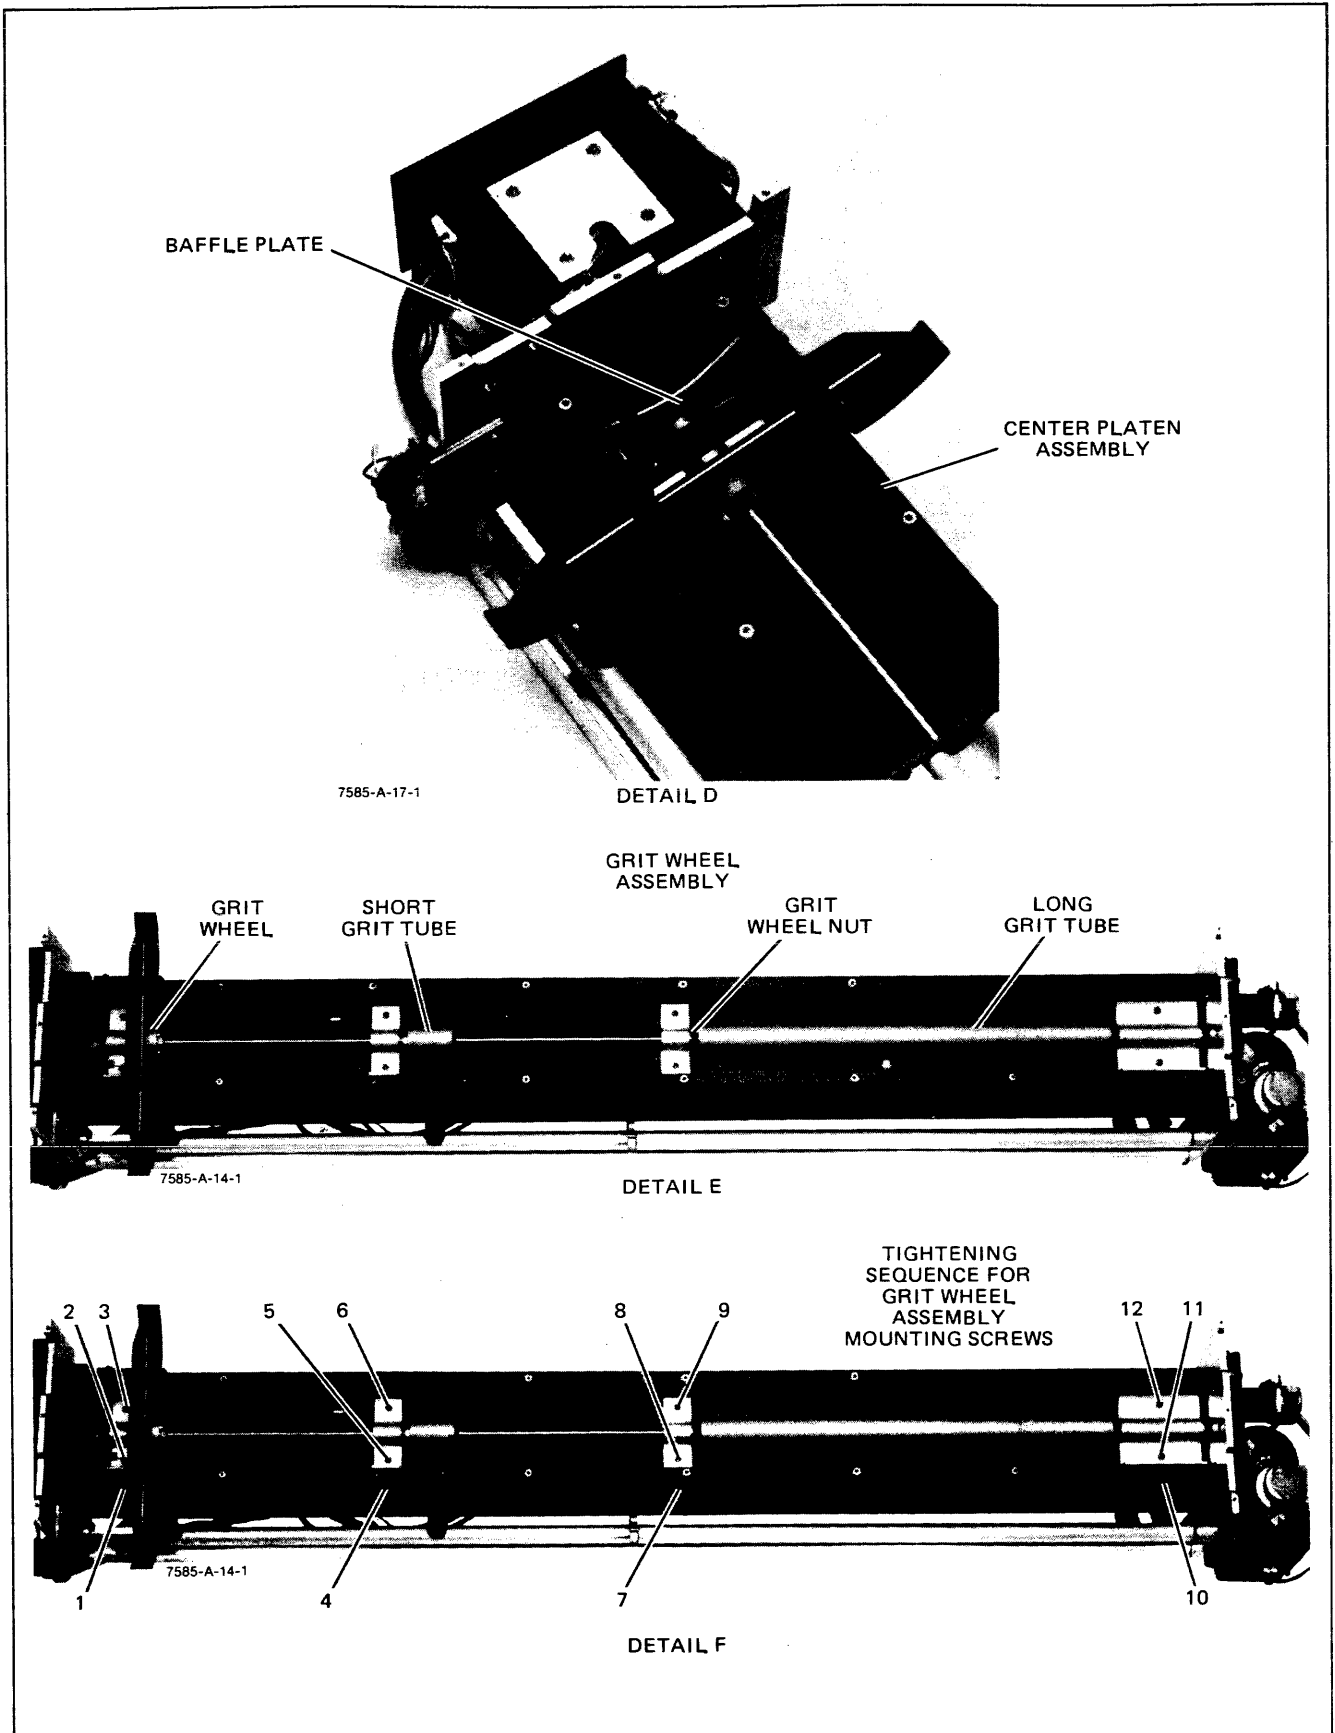

Figure 6-14. Grit Wheel Replacement (Sheet 2 of 2)
- w. Assemble the new grit wheel. Do not tighten the grit wheel nut at this time. See Figure 6-14, Detail E.